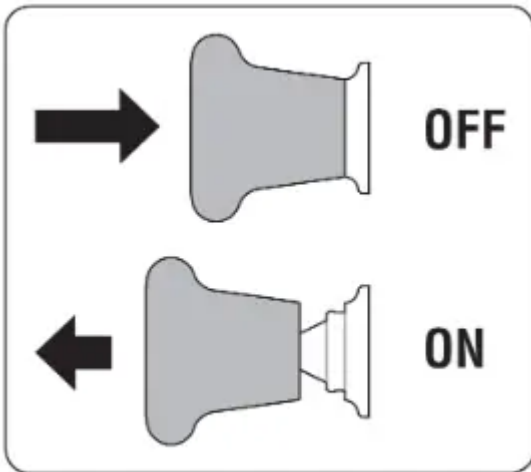

Figure 13
- Pull the PTO switch up/out into the engaged (ON) position. See Figure 13.